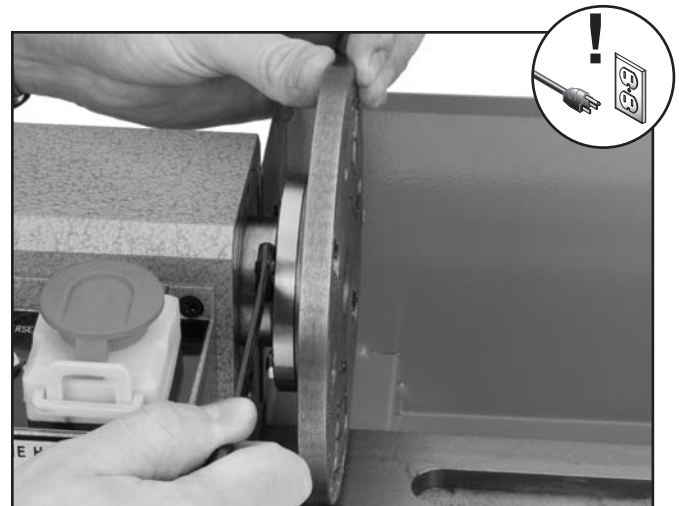

Figure 16. Installing the faceplate.
3. Line up the studs with the holes on the spindle nose and secure the chuck/faceplate with the hex nuts (see **Figure 16**).